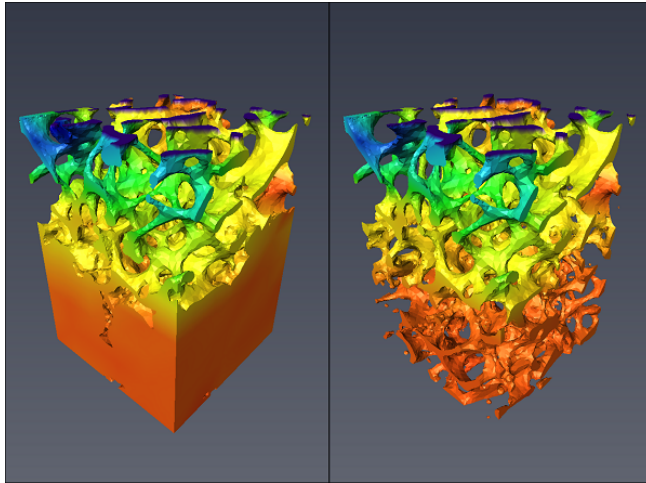

Figure 19.18: Tetragrid Visualisation (left - cement/bone ; right - bone)
- Load tetrahedral grid data `data/tutorials/xvolumecorrelation/BCI_reference3.labels.tetra.am` (Figure 19.18).